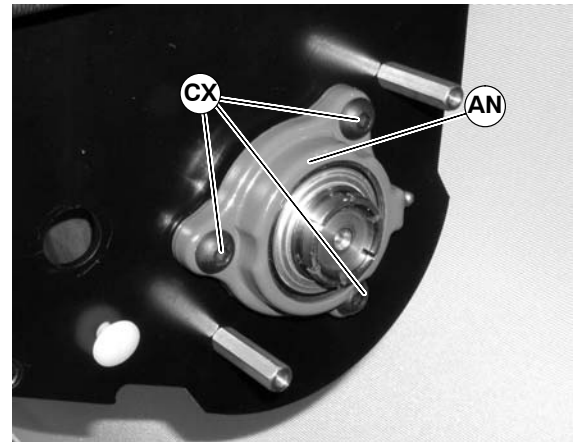

Figure 92
4. Remove the three (3) mounting screws (CX of Figure 92).
5. Remove and replace housing assembly (AN of Figure 92).
6. Tighten three (3) mounting screws (CX of Figure 92) to 200 in-lbs (22.5 N-m).